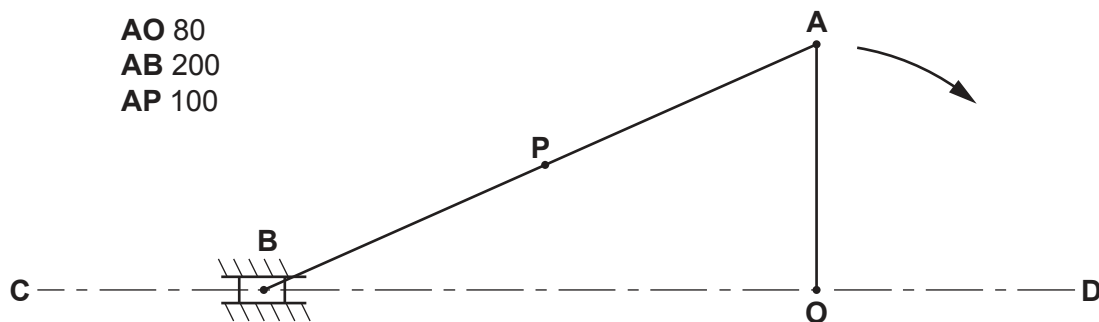

Fig. 9.2
- (b) Fig. 9.2 shows a simple mechanism.